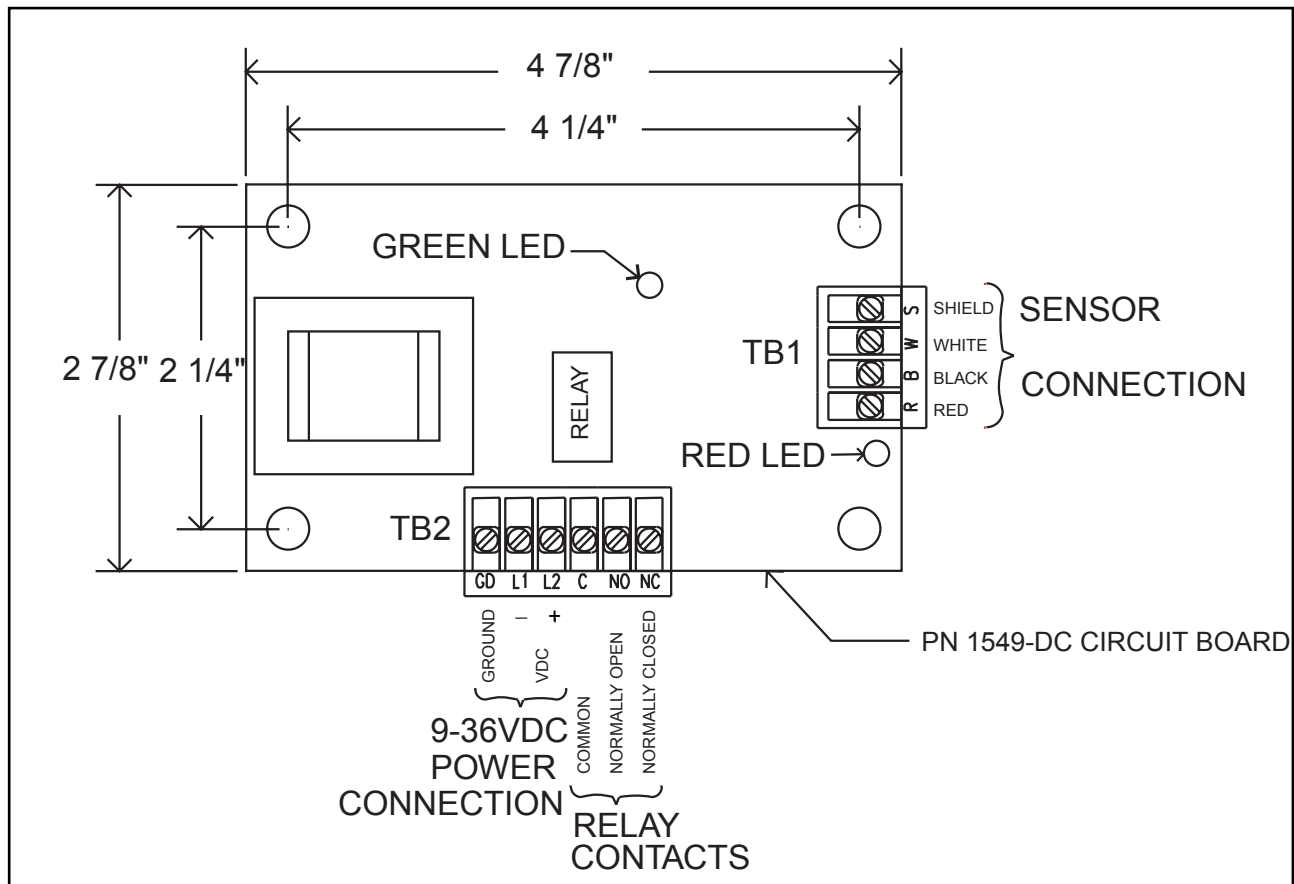
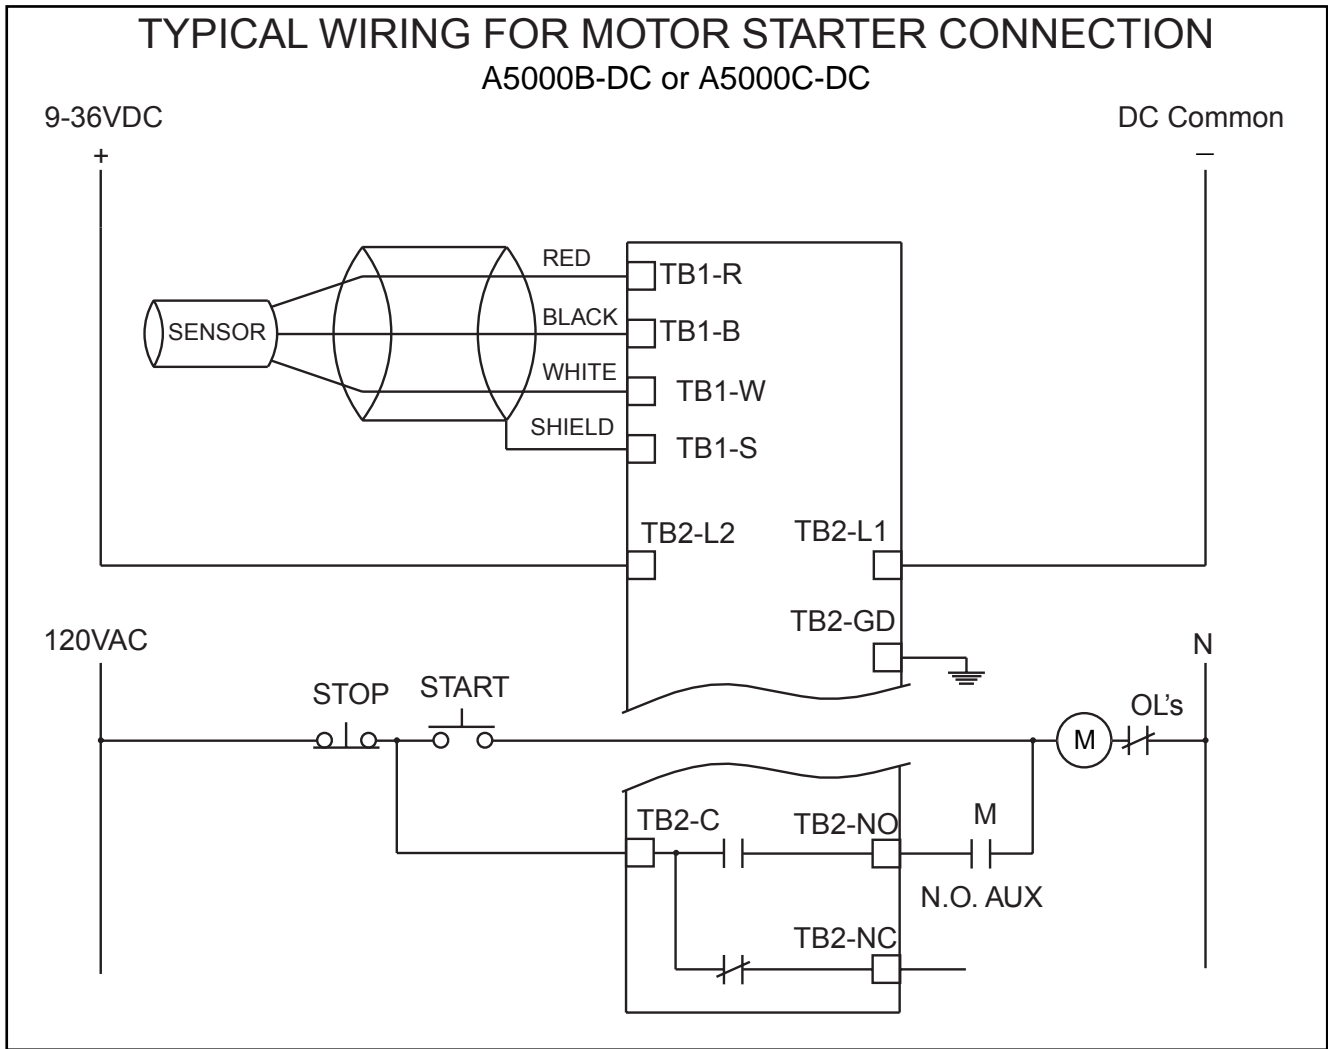

Figure 5
Figure 6
**5.1** Power connections and relay connections to the A5000B-DC zero speed switch are shown on figure 5, page 5. Also, figure 6 & 7, page 6 & 7 show typical wiring diagrams.
**5.2** Connect 9-36 VDC power to L1 and L2 on terminal block TB2. Connect the equipment safety ground to the ground (GD) terminal on terminal block TB2. (see figure 5, page 5)
**5.3** Make relay connections to appropriate terminals on terminal block TB2. (see figure 5, page 5)